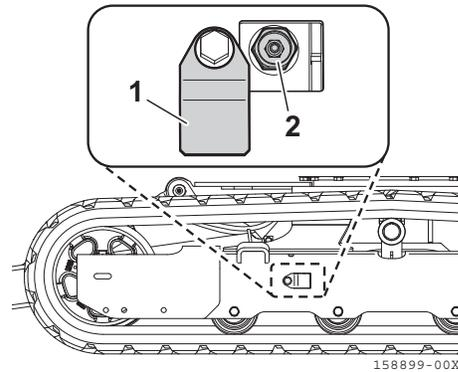

Fig. 8-20
1. Remove the cover (Fig. 8-20, 1).
3. Inject grease through the nipple valve (Fig. 8-20, 2) using a grease gun until the steel crawler tension is 5.1 in. (130 mm) [4.7 to 5.1 in. (120 to 130 mm) when replacing with a new one].
6. Install the cover (Fig. 8-20, 1).